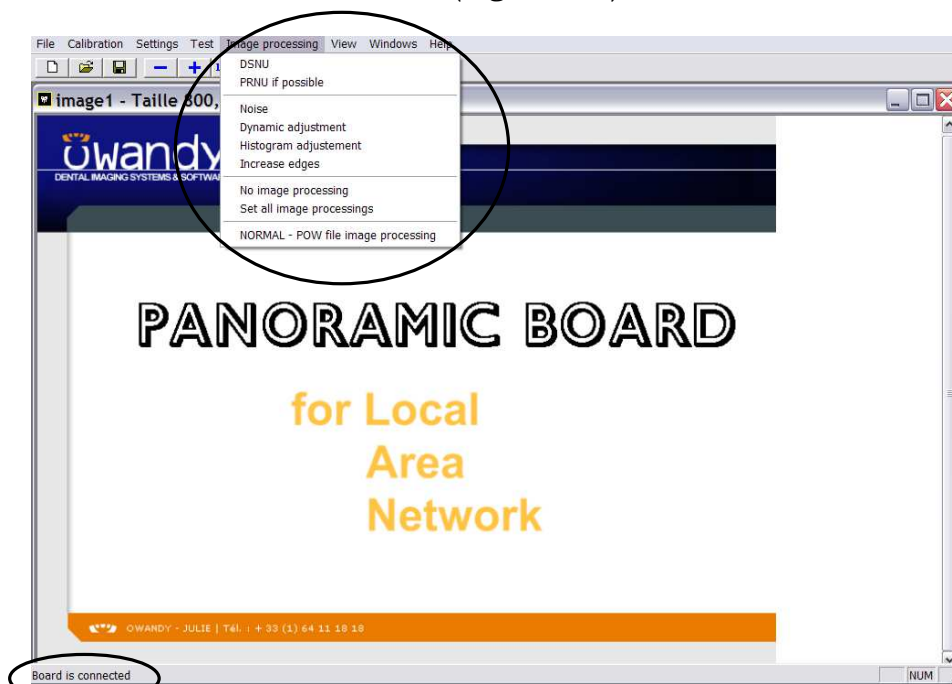

Figure 7-8
- 35.** Open the "Sensor Centering" program on the CD (P/N 5807304100) and wait until the message "Board is connected" is displayed on the bottom bar of the program. Check that in menu "Image processing" all the items are not selected (Figure 7-8).